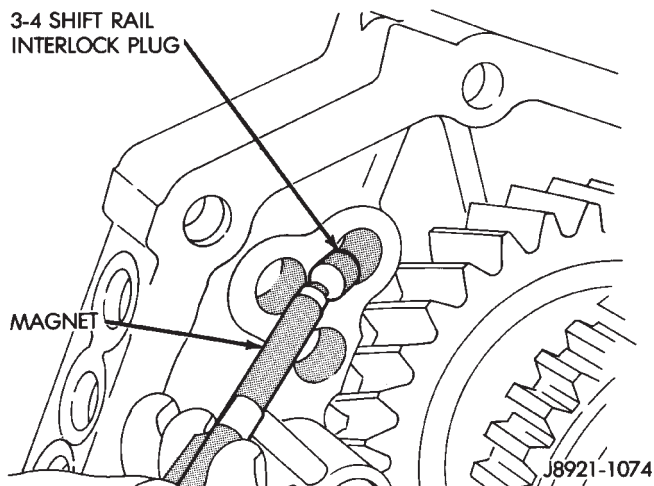

Fig. 93 Installing 3-4 Shift Rail Interlock Plug
(9) Coat 3-4 shift rail interlock plug with petroleum jelly and install plug in intermediate plate (Fig. 93).